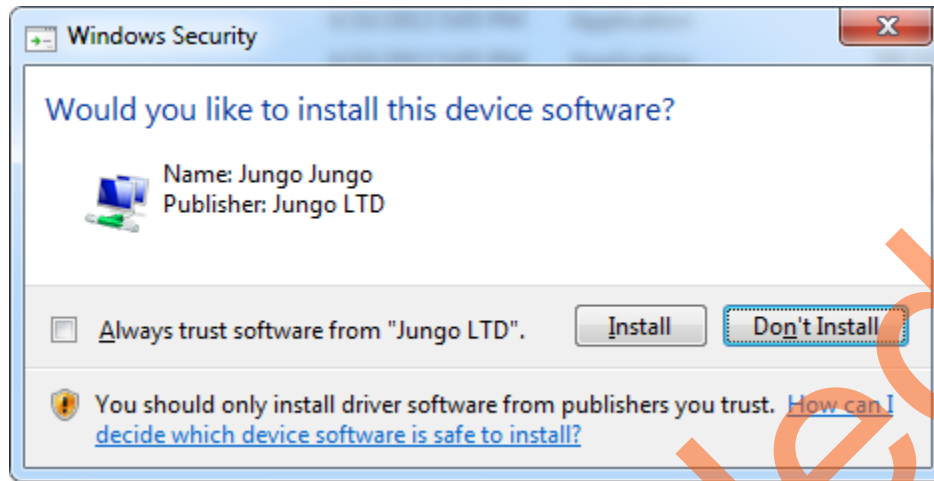

Figure 14 • Jungo Driver Installation
3. Click **Install**, if the window is displayed as shown in Figure 14.